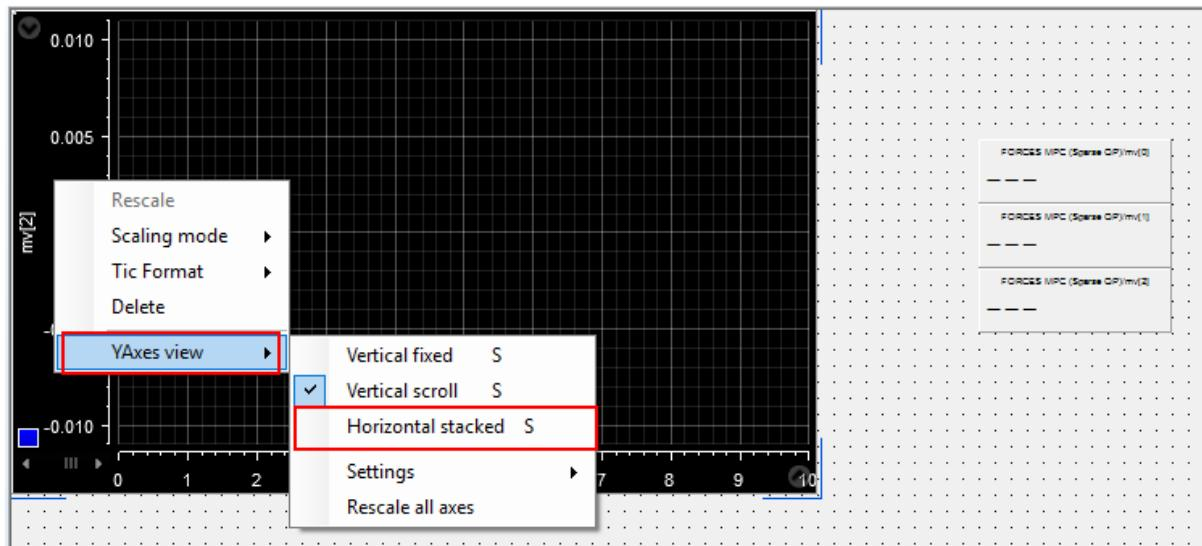

Figure 6.18: Select to show all the signals on the same plot with their own Y-axes
- 14) To see all the plots concurrently right-click on the left of the Y-axis and select YAxes-view> Horizontal stacked (see Figure 6.18).